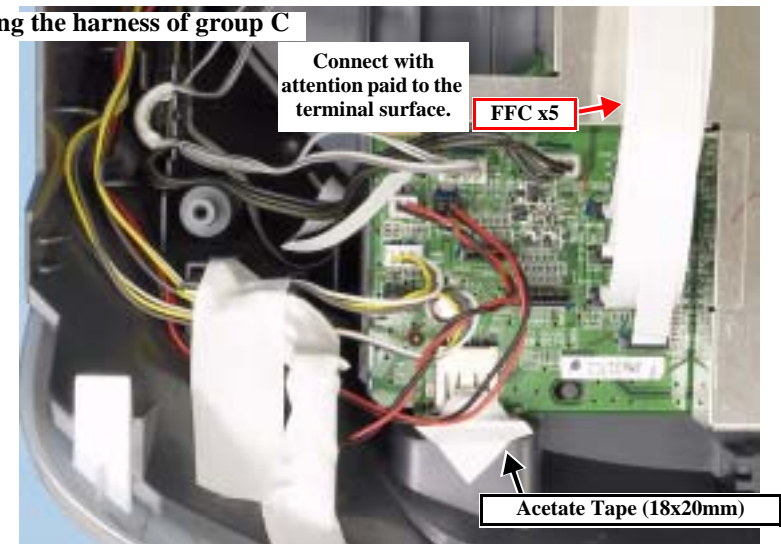

Figure 4-19. Connection of Group C (FFCs)
7. Connect the FFCs of group C to the connectors. (*Fig. 4-19*)
8. Stick acetate tape on the USB terminal (in the front). (*Fig. 4-19*)